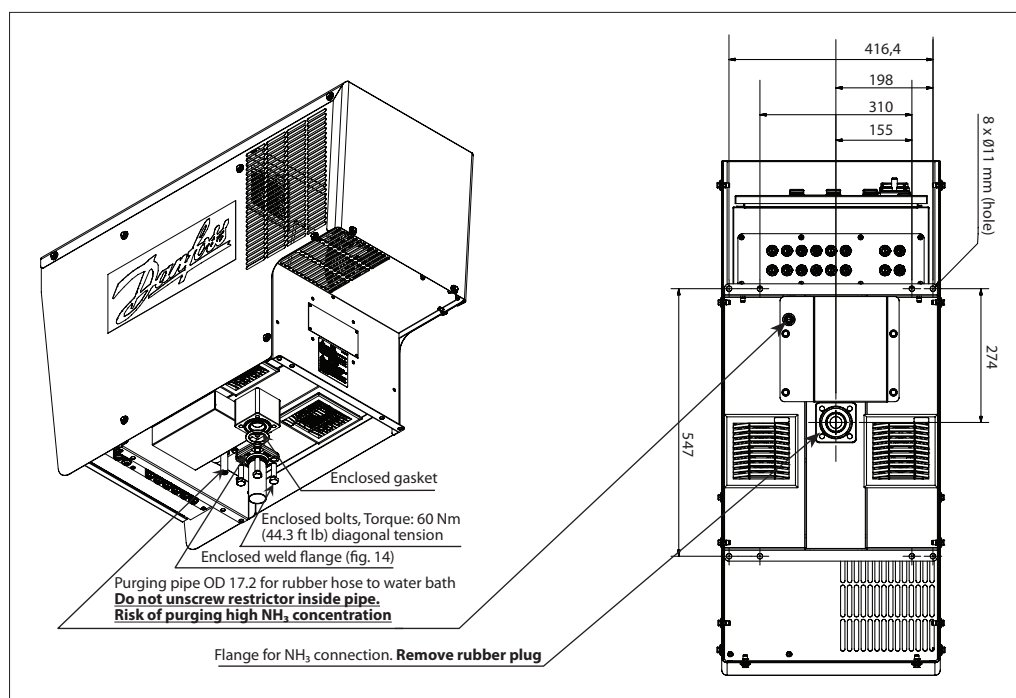
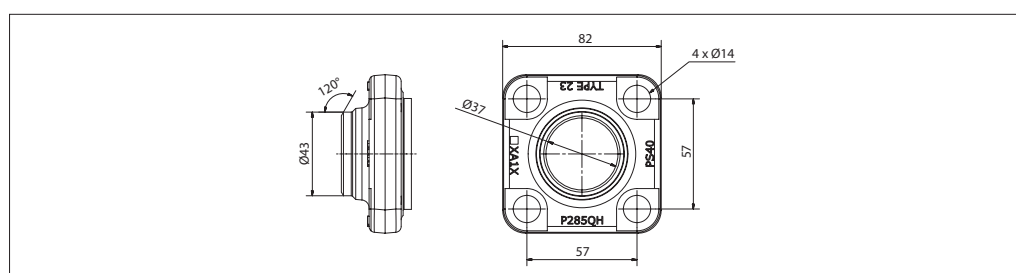

Fig. 13 Ammonia connection
Fig. 14 Enclosed weld flange
1. Prepare the ammonia pipework with the weld flange according to Fig. 13 and Fig. 14. The main/drain piping should never be smaller than inner diameter Ø37 mm (1.5 in).